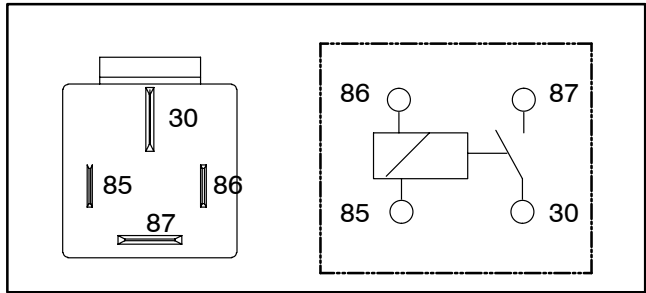

Figure 22
4. Verify coil resistance between terminals 85 and 86 with a multimeter (ohms setting) (Fig. 22). Resistance should be approximately 72 ohms.